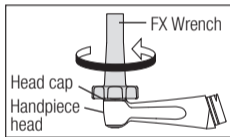

Fig. 20
- 5 Locate the correct FX Wrench for the head cap then turn the FX Wrench counter clockwise to loosen the head cap. Remove the head cap (Fig. 20).